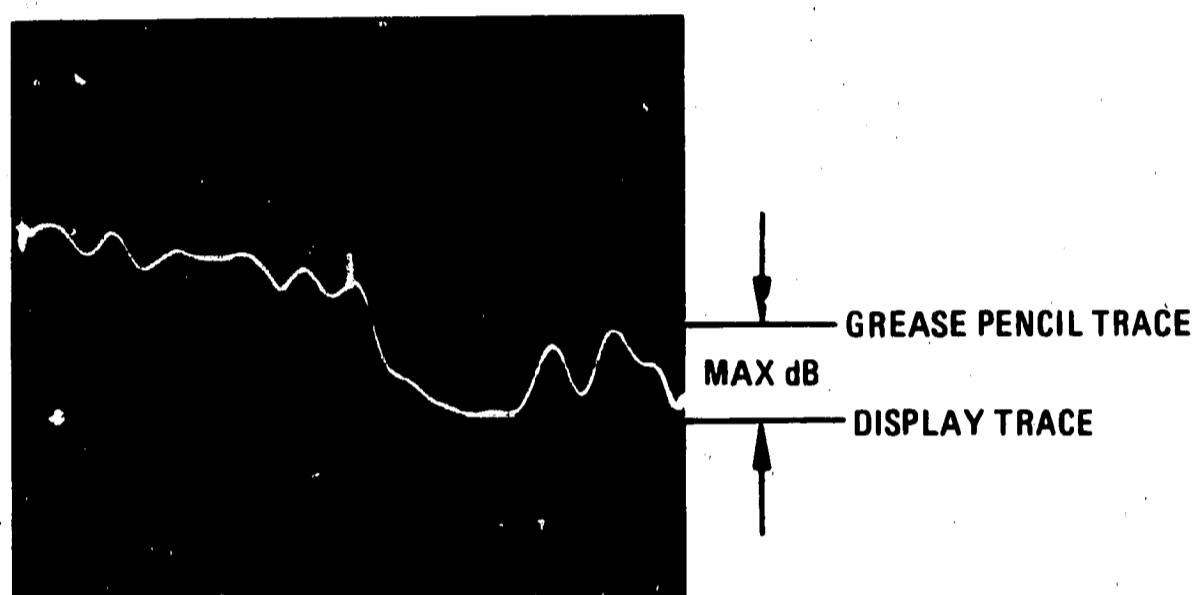

Figure 4-5. Reflection Frequency Response Magnitude
- h. Measure the maximum difference between the grease pencil trace and the display trace (Figure 4-5). This measured value should be $\leq \pm 2$ dB for the entire 0.5 to 1300 MHz frequency range.